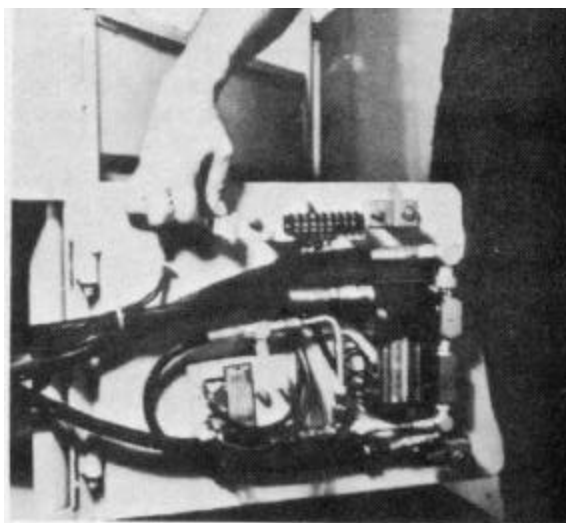

Figure 5-128
3. Disconnect quick disconnect electrical control circuit cable (Fig. 5-128).